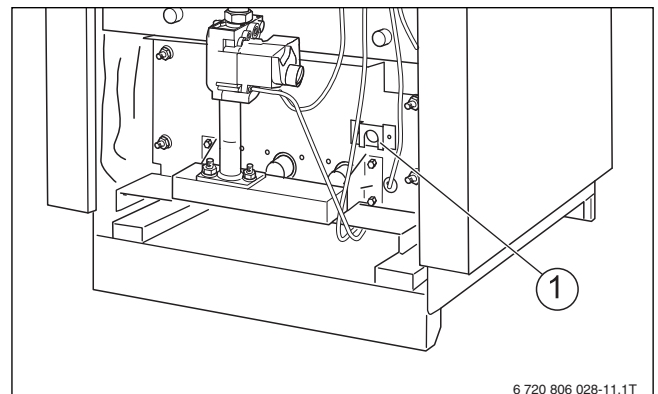

Fig. 21 Inspection hole in the burner cover
5. Look at the ignition module through the inspection hole (→ Fig. 21 [1]) in the burner cover.
13. Observe ignition flame through the inspection hole in the burner cover (→ Fig. 21 [1], page 19).
18. Observe the main burner flame through the inspection hole in the burner cover (→ Fig. 21 [1], page 19). The flame must have a steady and fixed contour and generally has a bluish color.